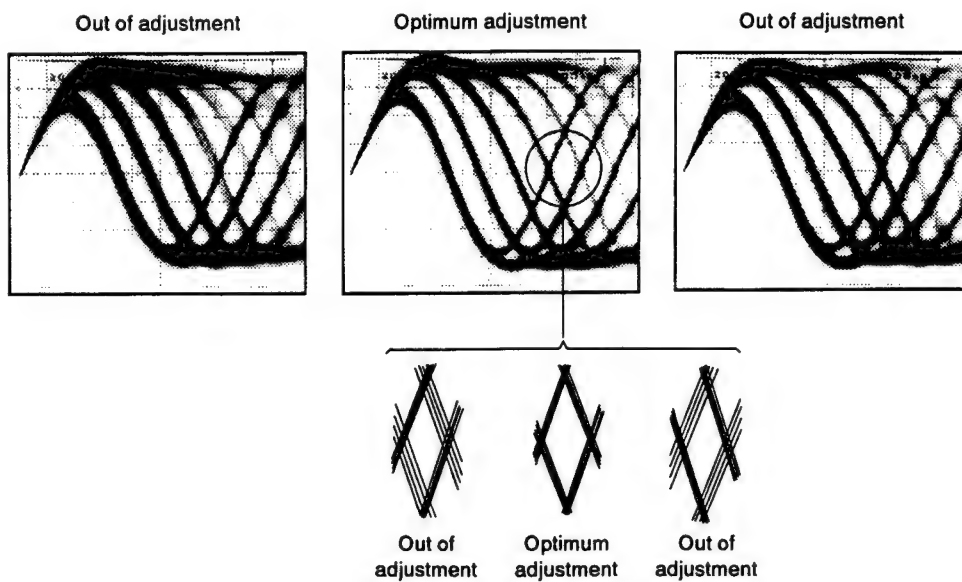

Figure 5 Eye pattern
3. Next, adjust the tangential tilt adjustment screw with an M3-mm hexagonal wrench so that the eye pattern (the diamond shape at the center of the RF signal) can be seen the most clearly (Figure 5).